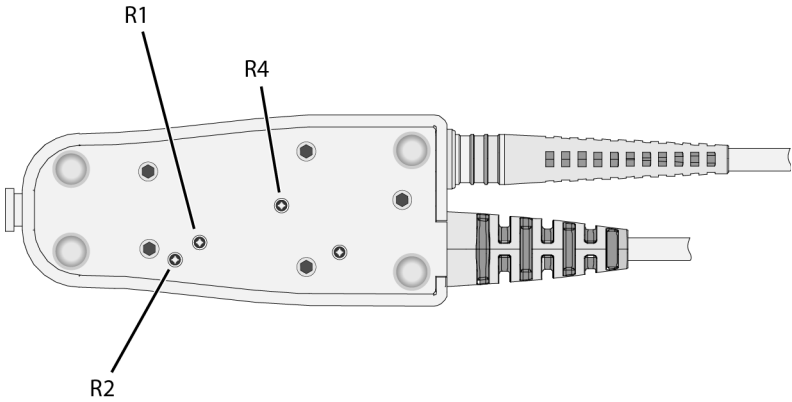

Figure 32 Location of Calibration Adjustments
During this calibration, you may be prompted to make one or more adjustments. These adjustments, located on the underside of the probe amplifier, are shown in Figure 32 on page 69.
- 9 If you are prompted to make an adjustment, refer to Figure 32. The adjustments are located on the underside of the probe amplifier.